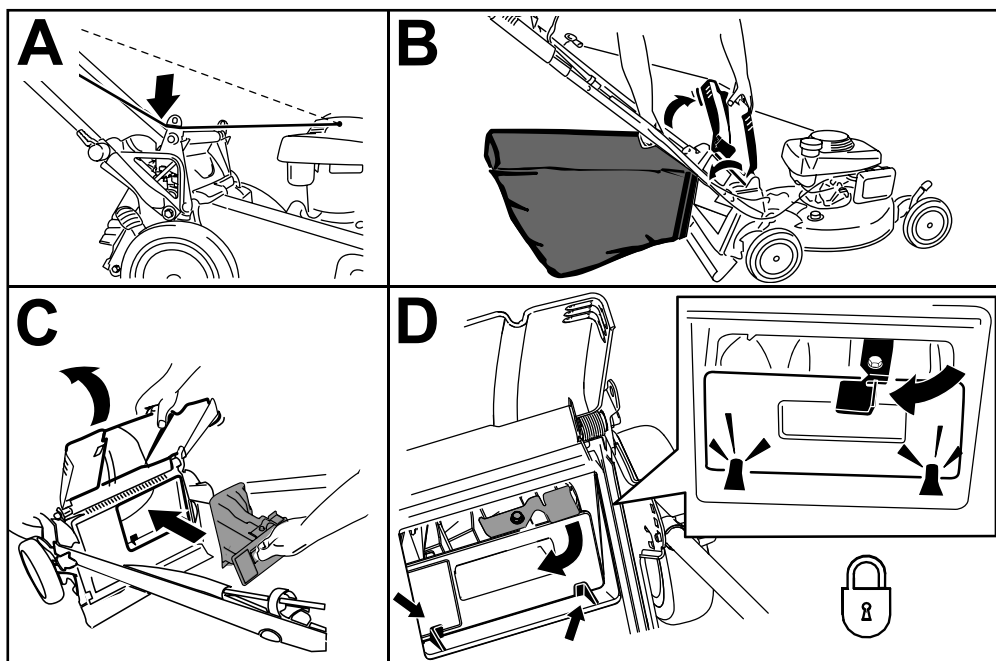

Figure 17
1. Route the starter rope around the lower-rope guide (A of Figure 17).
2. Raise and hold up the rear deflector and lift the grass bag up by the handle off the notches of the handle brackets (B of Figure 17).
3. Install the rear plug (C of Figure 17).
Important: Ensure that the rear plug is locked in place. To lock the plug, firmly push the plug in until it snaps into place behind the tabs, and rotate the lever on the plug to the left (D of Figure 17).